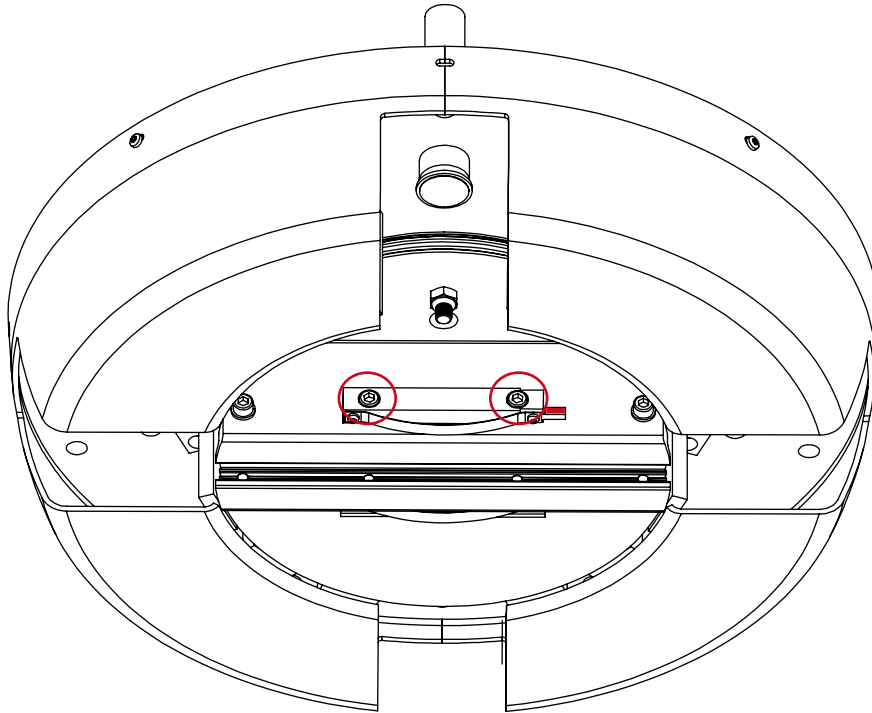

figure 2
- 2) Remove both hex bolts (HK5) which attach the plastic part to the rail (fig. 2). Keep the bolts.